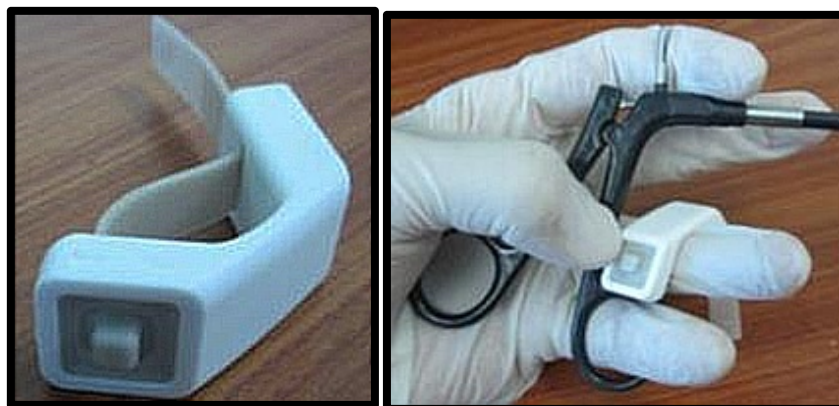

Figure 1: CU Ring configuration
1. **Ring**, which is worn by the surgeon on one of his fingers (like a normal ring), over the glove. The Ring Unit is activated with the surgeon's thumb. See Figure 1.